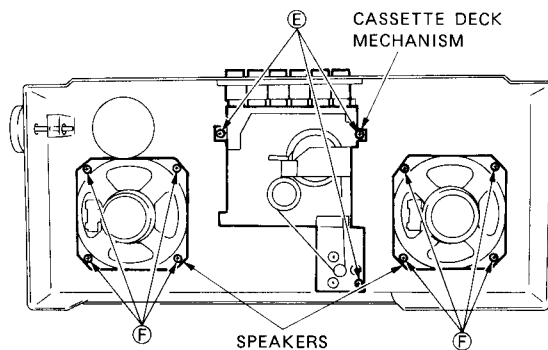

Fig. 6
**6. Removing Cassette deck mechanism (Fig. 6)**
**7. Removing speakers (Fig. 6)**